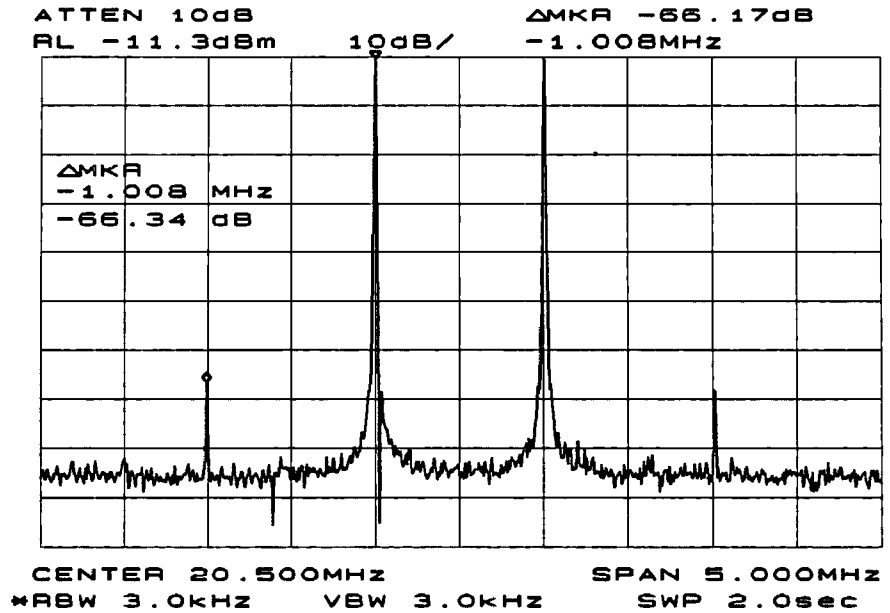

Figure 3-7. Intermodulation Distortion Measured in dBc
5. The spectrum analyzer **MARKER DELTA** function activates a second marker and displays the difference between the two markers. Relative measurements can then be performed easily. To measure a distortion product, press **PEAK SEARCH** to place a marker on a source signal. To activate a second marker, press **MARKER DELTA**, **MORE**, and **NEXT PK LEFT** or **NEXT PK RIGHT** to set the second marker on the peak of the distortion product that is beside the signal source. (You may have to press the key a few times to place the marker at the desired peak.) See Figure 3-7. The difference in frequency and amplitude between the two markers is displayed in the active function block. Because the source signals are equal in amplitude, the intermodulation products should be equal as well, so it is not necessary to measure the amplitude of the second harmonic.